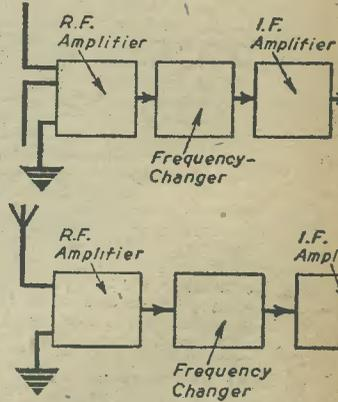

Fig. 2.—Block diagrams of typical superhet receivers.
A block schematic diagram of a typical superhet F.M. receiver is given in Fig. 2 (A) and this may be directly compared with the diagram for a conventional A.M. superhet which is given in Fig. 2 (B). The limiter which is included in the chain of the F.M. receiver has the desirable effect of rendering the receiver immune to voltage fluctuations in the receiving aerial such as those caused by natural and man-made static. Let us now consider the differences between F.M. and A.M. receivers in greater detail to see how they will affect the home-constructor of F.M. receivers.